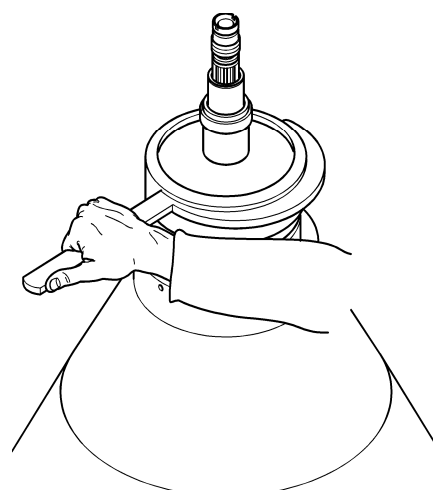

Figure 6.27
- 24) By the spanner (09.210.0), screw (left-handed thread) the **small lock ring** (fig. 6.27).